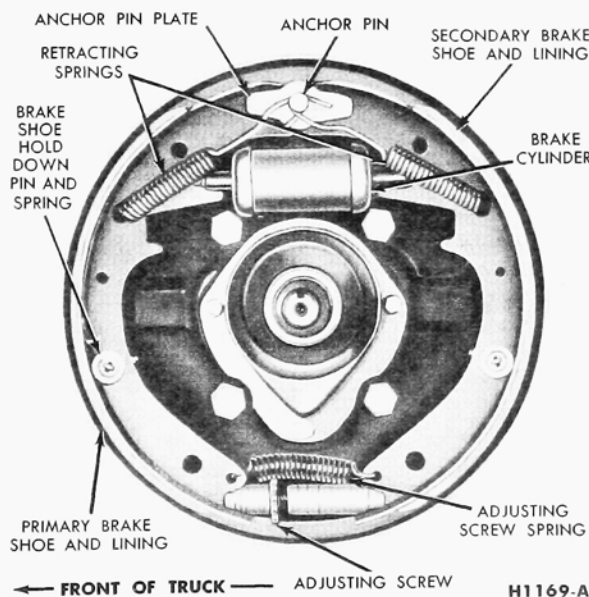

FIG. 8—Duo-Servo Single Anchor Brake Assembly
3. Remove the anchor pin plate (Fig. 8 or 9).
3. Remove the lock nut, washer, and wheel bearing adjusting nut from the steering spindle. Remove the wheel, hub and drum as an assembly (Refer to Fig. 8, Part 2-2). The wheel outer bearing will be forced off the spindle at the same time. Remove the wheel inner bearing cone.
3. Rotate the wheel in both directions and at the same time tighten the bearing adjusting nut to bring the bearing rollers into proper contact. After the bearings are firmly seated, back off the adjusting nut $\frac{1}{8}$ turn (45°). Place the bearing adjusting lock washer on the spindle. Make sure the locking dowel on the adjusting nut enters the lock washer hole which most closely aligns with the dowel. Install the lock nut and torque to 40 ft-lbs (Fig. 8, Part 2-2).